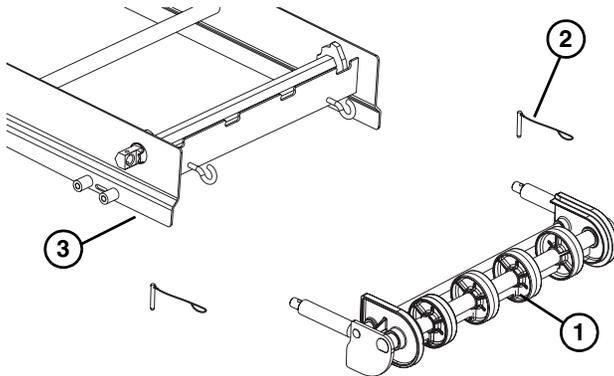

**Figure 18**
- Slide the tip up sleeves (**Figure 18, item 1**) and stop keys (**Figure 18, item 1**) outward on hex shaft assembly (**Figure 18, item 3**) until the sleeves seat in the holes of the frame and stop keys are seated against frame stops (**Figure 18, item 4**).